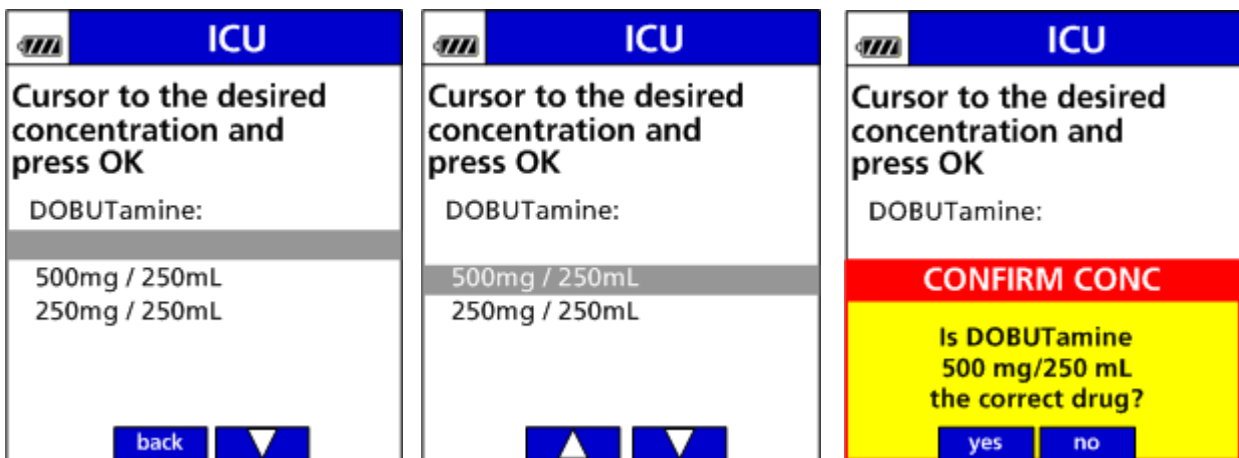

Figure 23. Select Concentration Screen.
4. Cursor to the correct drug concentration (if more than one is offered) and press OK. (See Figure 23.)